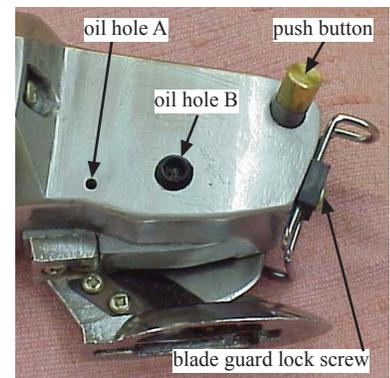

Figure 4. Lubrication
1. Add a drop of machine oil in the hole on the oil-ear (see Figure 1) and oil hole "A" (see Figure 4) once a day if you use the cutter every day. Otherwise add a drop before every use of the cutter.
2. Inject a small amount of grease into the oil hole "B" (see Figure 4) once a month for occasional users, or once every two weeks for heavy use.
3. Remove the blade guard by unscrewing the guard lock screw (see Figure 4).
4. Unscrew the sharpening stone lock screw (see Figure 5) while tightly holding the push button (see Figure 4) on the opposite side of the cutter head. Replace the worn stone with a new one.